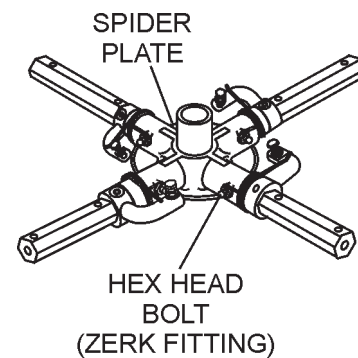

Figure 41. Removing Roll Pin and Zerk Grease Fitting
1. Each trowel arm is held in place at the spider plate by a hex head bolt (zerk grease fitting). Remove the hex head bolt (Figure 41) from the spider plate.